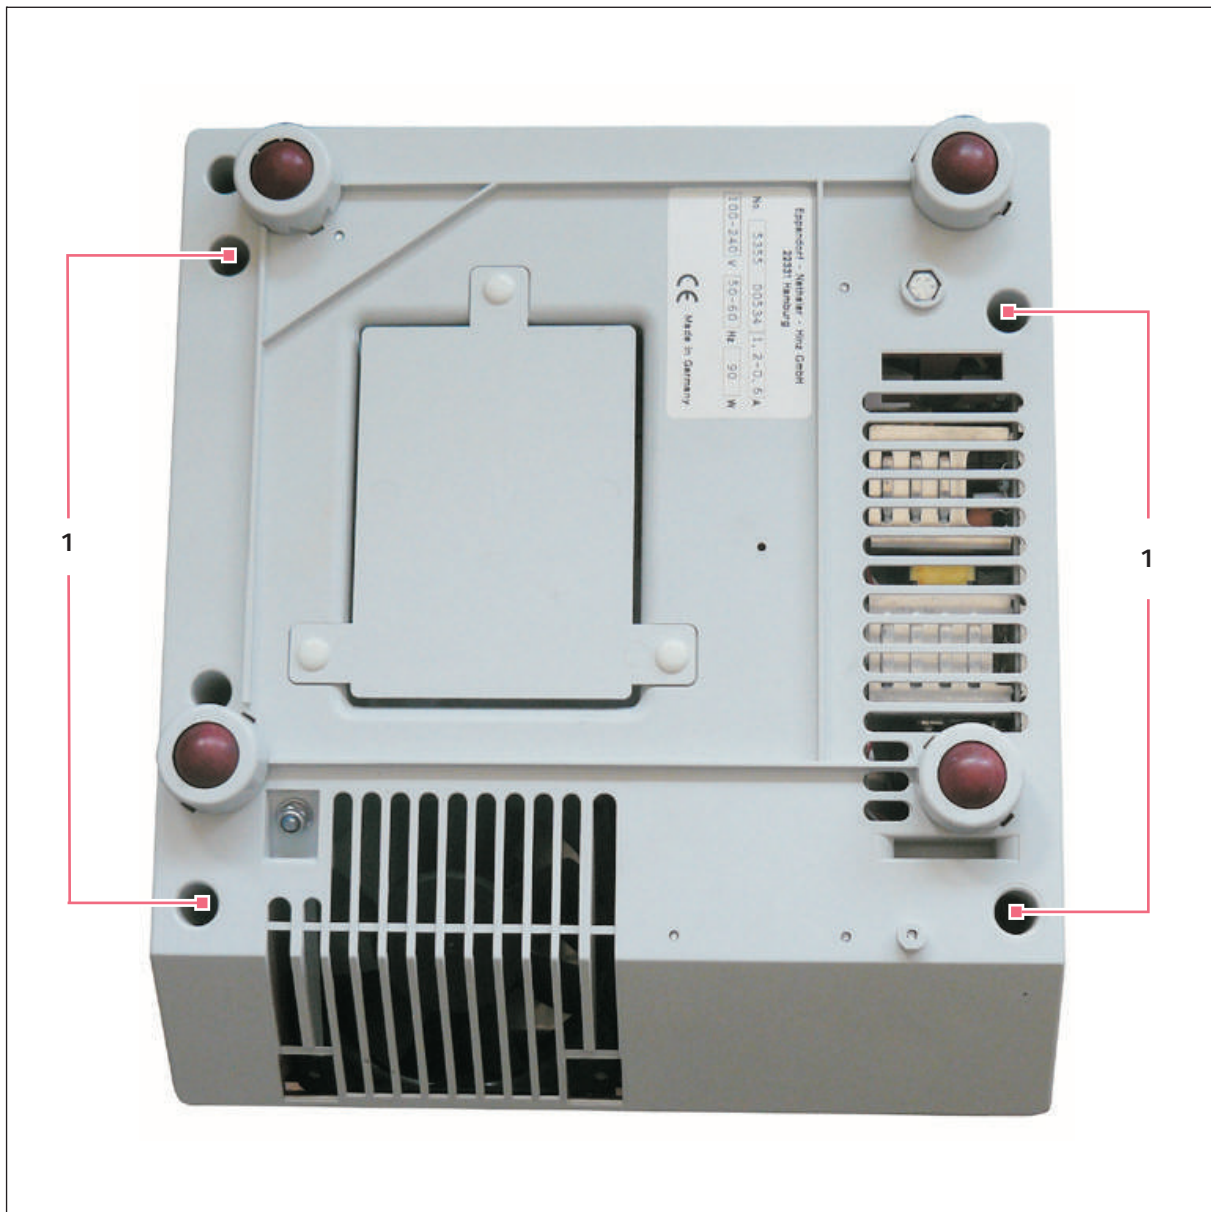

Fig. 6-5: View from below
2. Remove the four housing screw (see Fig. 6-5 on p. 30).